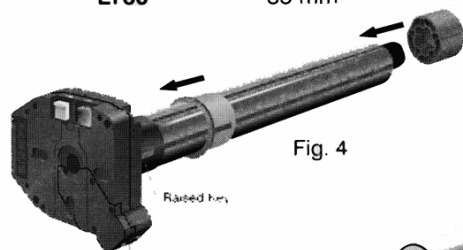

Fig. 4
- Place the crown wheel over the body of the motor. Slide the slot in the motor crown over the raised key on the motor's limit switch unit. (See Fig. 4)